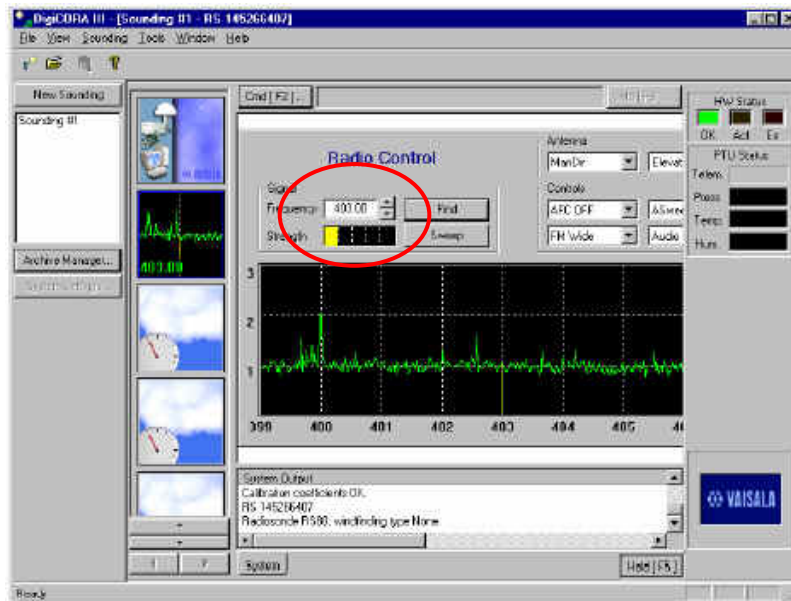

Figure 7
18. Go to **step 28** in *AMF BBSS Launch Operations*, **but before the system obtains coefficients from the radiosonde, open the signal spectrum screen** (see Figure 7). This should be done fairly quickly after the system finishes its start up checks.
19. Enter "401.5" into the frequency box of the signal spectrum screen (see Figure 7).